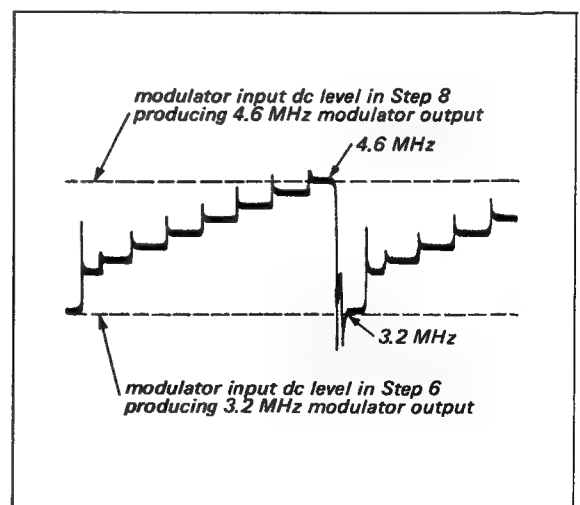

Fig. 5-2c. Maximum deviation setting
10. Readjust R126 (Carrier Frequency) so that the sync-tip part of the waveform corresponds to the position of the trace measured in Step 6. See Fig. 5-2c.
11. Adjust R121 (Deviation Set) so that the "top step" peak-white part of the signal corresponds to the position of the trace measured in Step 8. See Fig. 5-2c.